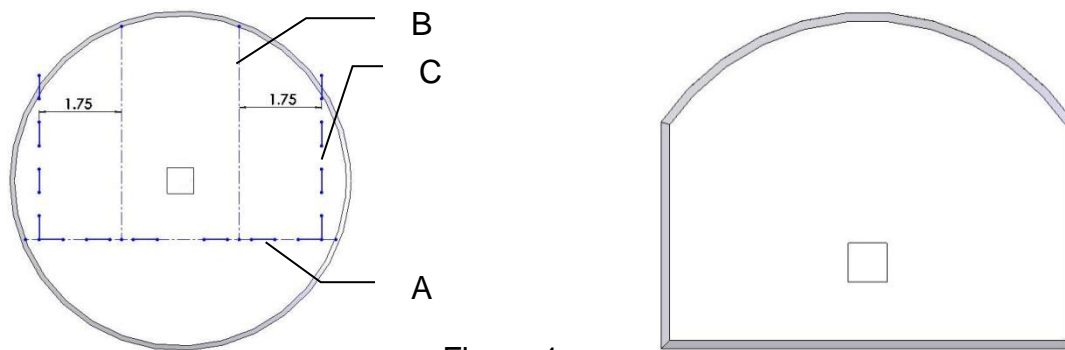

Figure 1
1. Both moisture discs (006-4641H) will need to be cut along the serrated line (A) shown on Figure 1. Measure from the laser etched line (B) 1.75 inches on both side. Mark and cut the disc. A completed disc is shown to the right.
4. Mark a line 1 1/2" up and 3 1/2" over from point D. Drill a 3/4" hole at the point (E). Repeat for the opposite side.